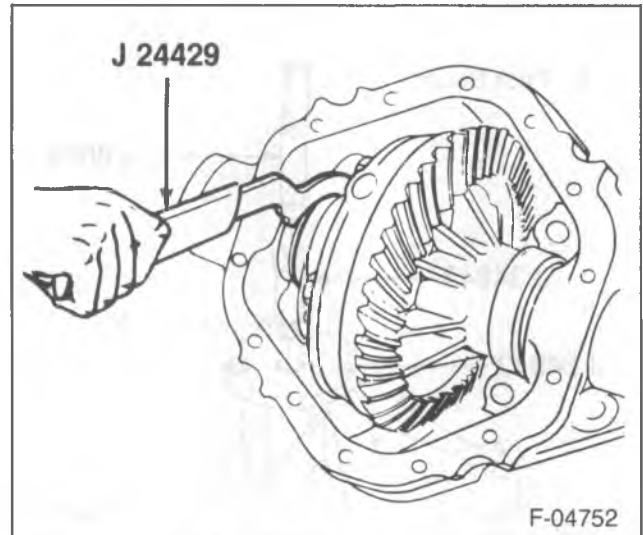

Figure 18—Adjusting the Differential Preload
Install or Connect (Figure 18)
5. If the reading is too high, remove the adjusting nut locks, and loosen the right nut one slot, and tighten the left nut one slot (figure 18).